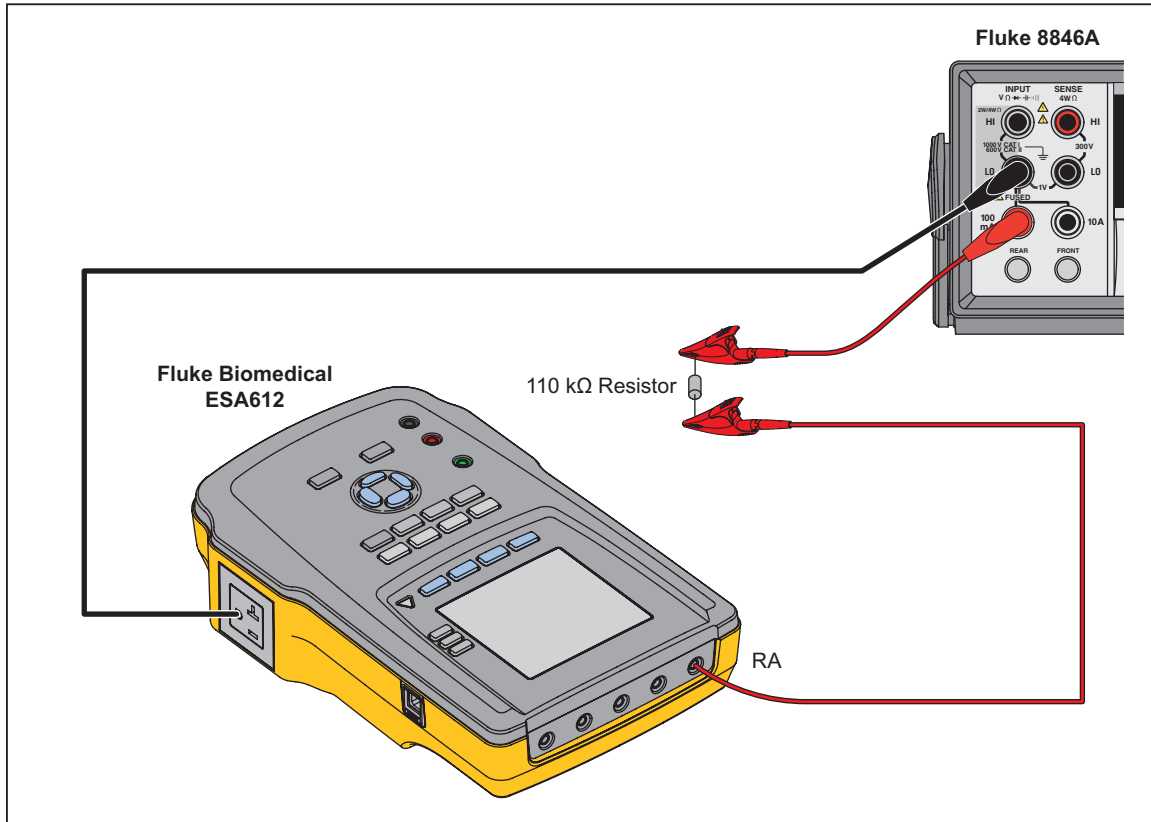

Figure 3-18. Direct Applied Part Verification Ground to RA Connections
1. Connect the RA Applied Part to one side of a 110 kΩ resistor. Connect the 400 mA jack of the DMM to the other side of the 110 kΩ resistor. Connect the DMM Input (-) to the EO ground. See Figure 3-18.